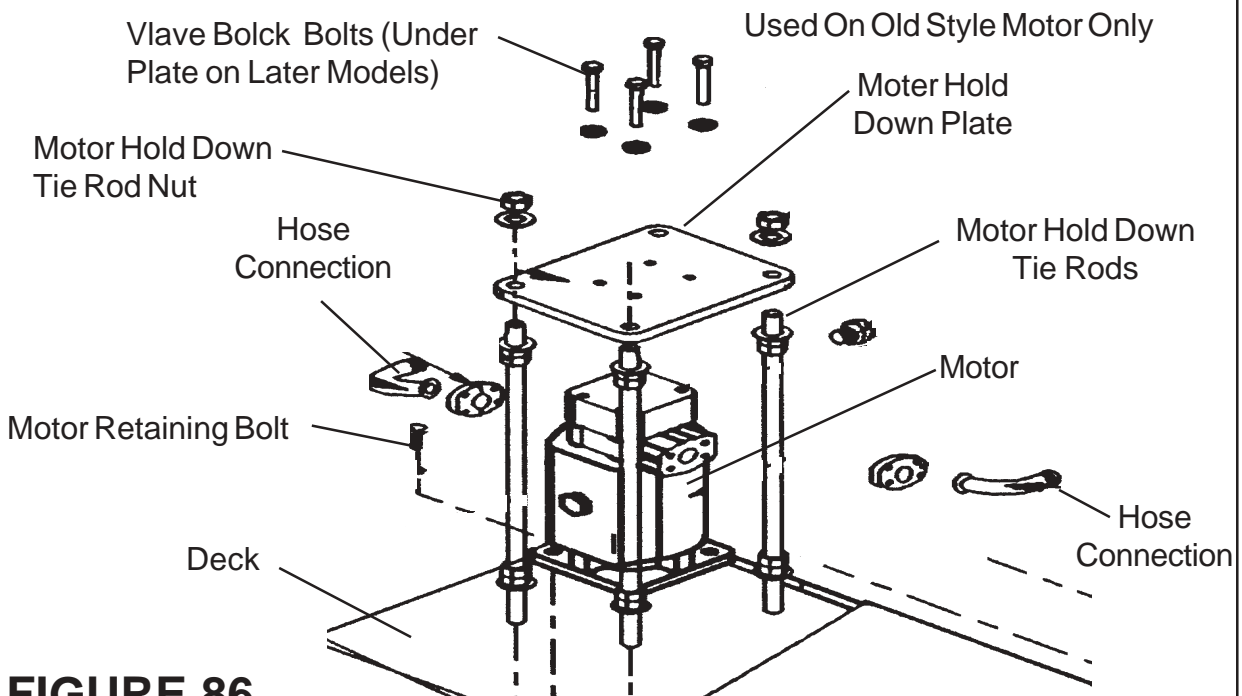

**FIGURE 85**
8. Remove Blade Bar or Pan Assembly. Use Caution the Blade Carrier is very heavy **Do Not** remove the retaining bolts till it is secure to where it will not fall. An easy way to support Blade Carrier when removing it is to only remove 2 of the 4 retaining bolts. Get 2 long bolts with same size and threads but longer than what was removed, cut the heads off of these 2 longer bolts and screw them in where you removed the 2 retaining bolts. This will support Blade carrier while you remove the other 2 bolts, this allows the Blade carrier to slide off. The four Blade Bar Retaining Bolts are Torqued to 400 ft. lbs. and are tight. It may be required to hold Blade Bar when removing them, This can be done by connecting a Chain to Blade Bar and securing it to Deck. Make Note of the length of the four Blade Carrier Retaining Bolts in center Blade Bar (See Figure 85), Never put Bolts back in that are longer or Shorter they will damage Spindle Shaft.
8. Install Blade Bar Carrier, As Bar Blade Carrier was only removed and not dis-assembled it should only be a matter of bolting the Assembly on and Torqueing it down? If Bar Blade Carrier was Dis-Assembled it will have to be assembled and components Torqued as specified, See Figure 85 on previous Pages. Blade Bar Assembly Bolts MUST be torqued to 2000 ft. lbs., There are four of these Bolts, 2 long and 2 short, They MUST be torqued BEFORE Blade Bar is bolted to Spindle. The Blade Bolts must be torqued to 400 ft. lbs. and Roll Pin Installed. The Blade Bar Retaining Bolts (Socket Head Bolts) and lock washer must be installed, These will torque to 400 ft. lbs.